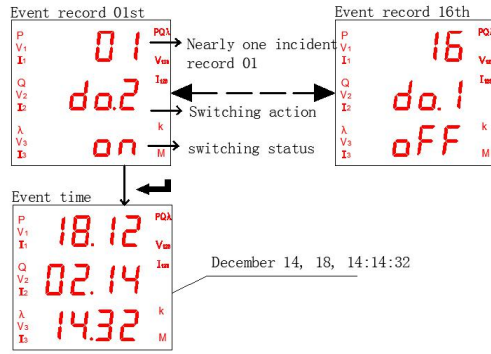

Figure 18
5.2.2 The steps to view the event record of PZ72/ 80/ 96 are shown in Figure 18.